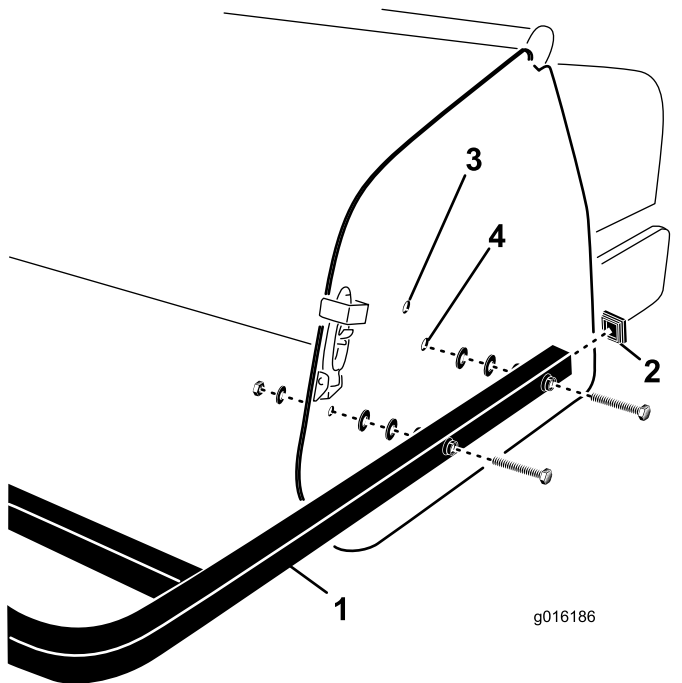

Figure 31
1. Insert the end caps into the ends of the rear guard tubes (Figure 31).
2. Align the holes in the rear guard mounting tubes with the holes in the aerator side plates (Figure 31).
3. Secure the guard mounting tubes to the side plates with 4 screws, flat washers, and nuts (Figure 31).